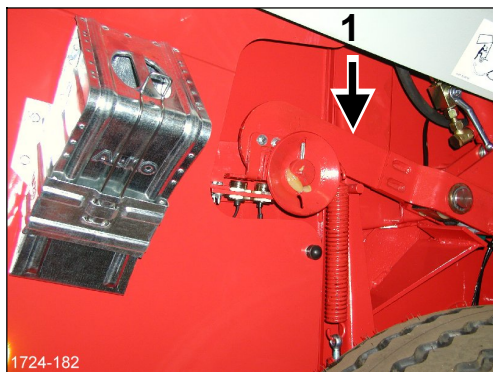

Figure 84
- ❑ To proper lock the tail gate: hold the tractor's distribution valve to "Lower" until the tail gate is completely closed and until the locking hook [1] grasps completely around the locking bolt (Figure 84).